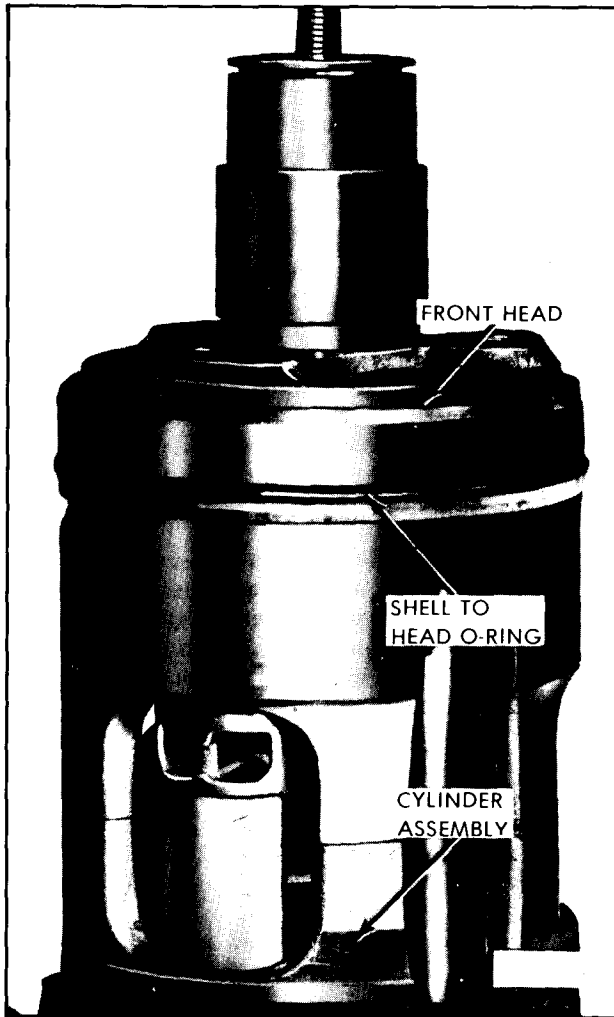

Figure 105—Shell-to-Front Head O-Ring Installation
21. Using the 525 oil, lubricate new head to-shell O-ring and install on rear discharge valve plate, in contact with shell (figure 105).